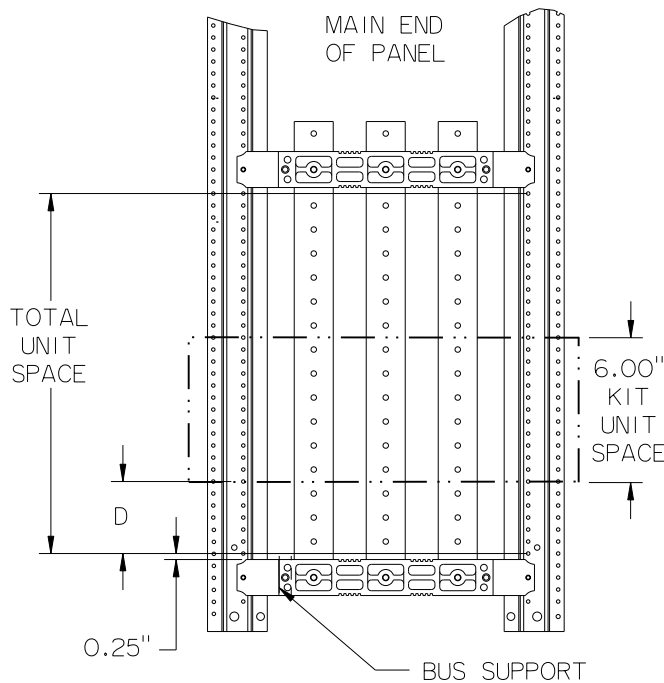

Figure 1
3. Refer to Fig.1 - For taking unit space measurements, use the bus support located farthest from the main lug or device end of the panel. Note that unit space starts 0.25" from the inner surface of the bus support.
4. This kit requires 6" of unit space. Determine the location where the kit is to be installed. The kit locating dimension D in fig. 1, must be a multiple of 3" (0", 3", 6", 9", etc.). Add 0.25" to dimension D when taking measurements from the bus support (0.25", 3.25", 6.25", 9.25", etc.).